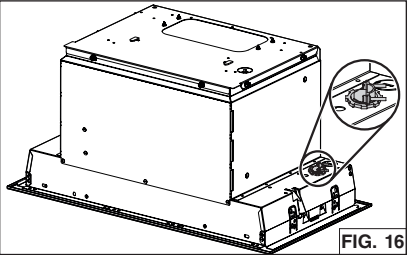

FIG. 16
4. Punch out **one** of the two knock-out holes. Install an appropriate 7/8" diameter strain relief (not included, grey part in FIG. 16). NOTE: The HCK44 cord connection kit (optional) can be used instead of the house power cable. Refer to the instruction packed with the HCK44 cord connection kit.